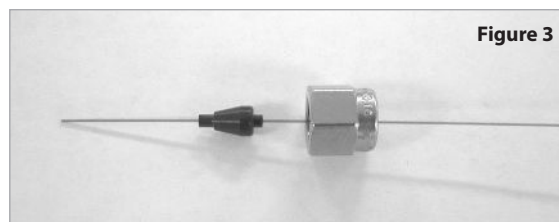

Figure 3
8. Place a capillary nut and ferrule (cat.# 21015 or 21016) onto the end of the capillary column (Figure 3).